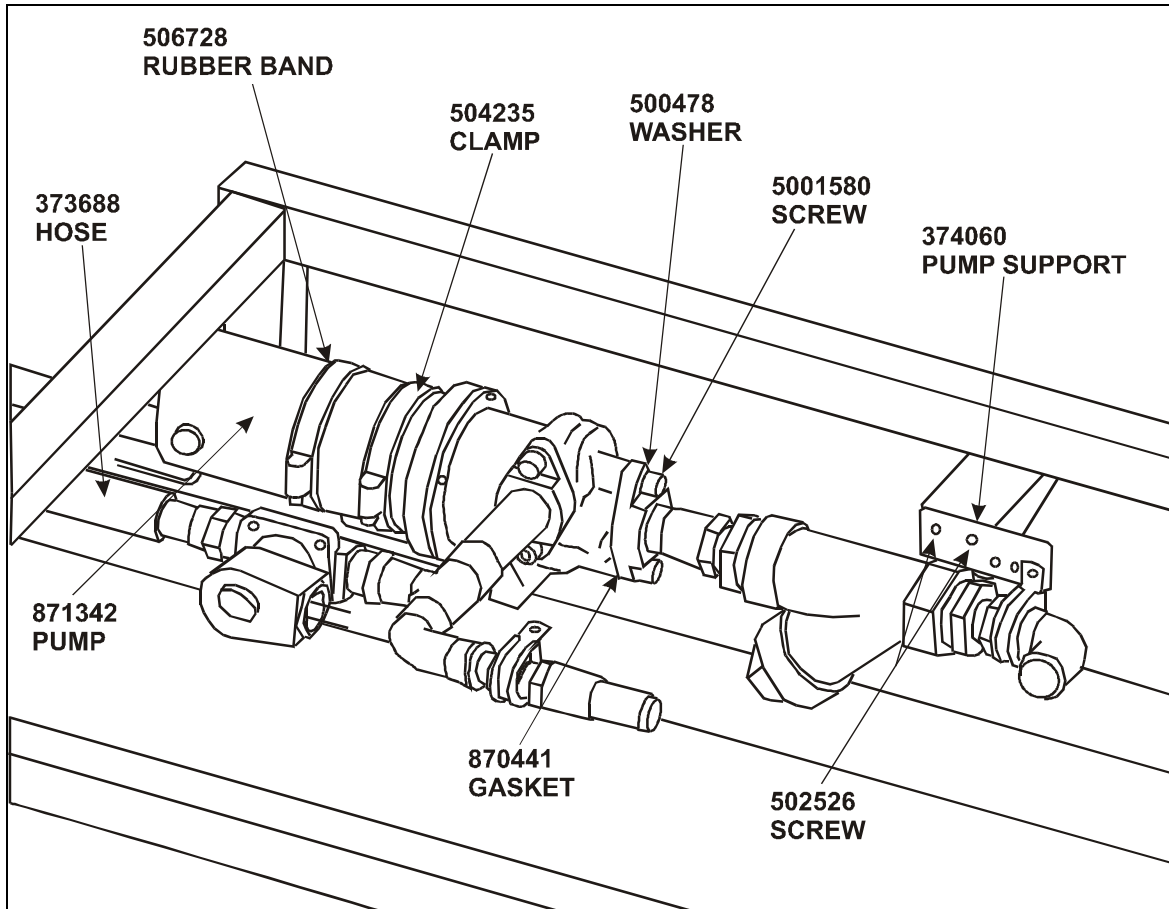

FIGURE 4
8. Move the “Adel” hose clamp located near the filter strainer then secure it to the new pump support (374060) using the 2 screws (502526) (refer to figure 4).
11. Replace the solenoid valve outlet hose (373688) (refer to figure 4).